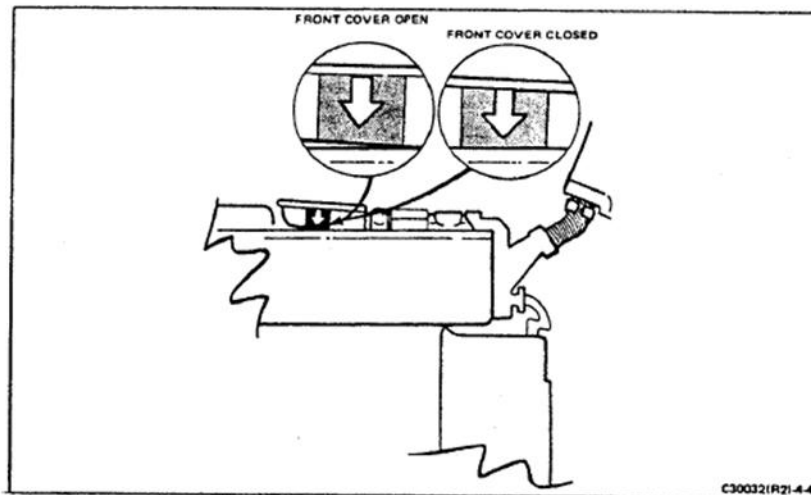

FIGURE 4-4 COMPARISON OF DECAL BEFORE AND AFTER FRONT COVER CLOSURE
- Close the front cover & note the decal location. The decal arrow should be closer to the bottom cover (Figure 4-4). If not, it is an indication of front cover looseness which should be corrected.